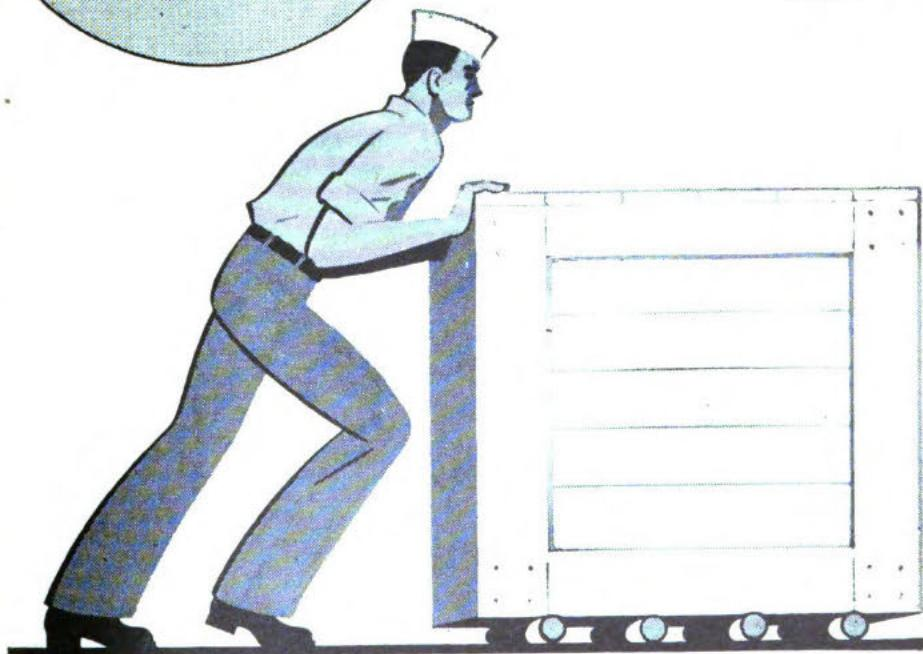

Figure 110.
3. Instead of working himself into a lather shoving that crate across the deck, Jack has found four lengths of iron pipe and put them under the crate, as in figure 110, to ease his work. He replaced ----- friction with ----- friction.